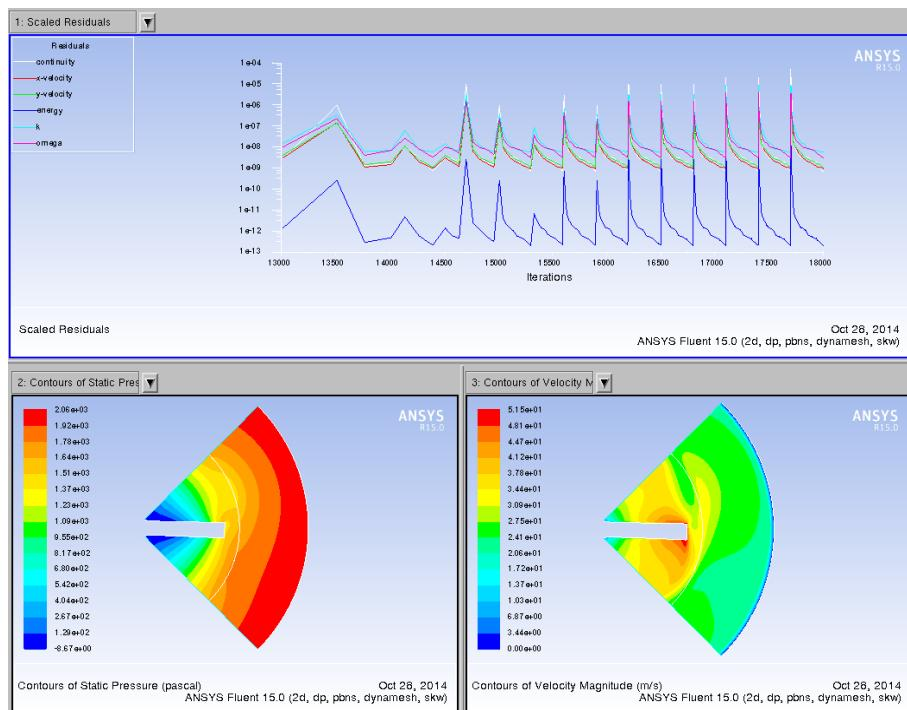

Figure 7: Pressure and velocity as coupling results on periodic FLUENT model with convergence history
1. During the simulation, FLUENT will display the residual, the pressure and the velocity distribution in the fluid domain. You can also see the deformation of the flexible structure. Here you need to change in the window layout to three windows (as shown in Figure 7).
Figure 7 and Figure 8 show the pressure and velocity magnitude in the fluid domain, computed on the periodic and the full coupled model. The differences in the results of the two approaches is founded in the not completely periodic behaviour of the solver on the full computational domain.